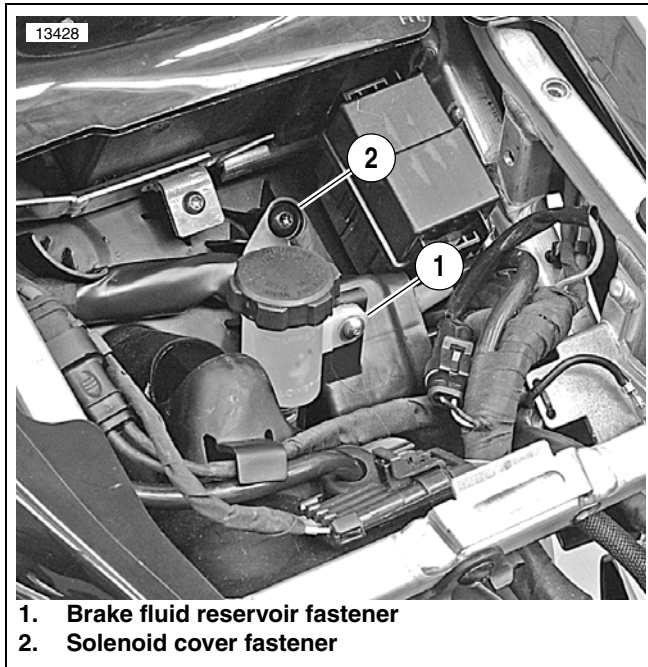
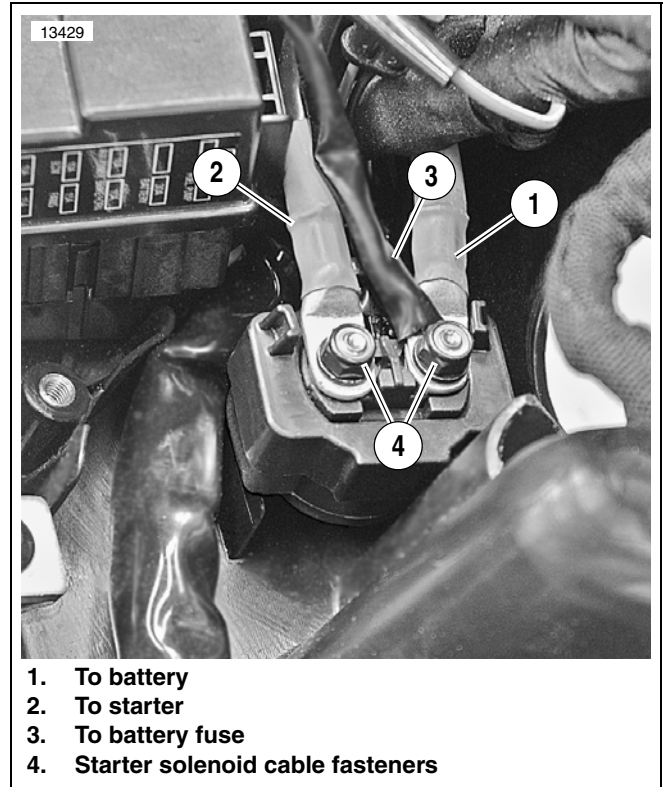

Figure 1. Starter Solenoid Cable Fasteners
Figure 2. Starter Solenoid
- See Figure 1. Remove the brake fluid reservoir fastener (1).
- Remove solenoid cover fastener (2) and the cover.
- See Figure 2. Remove starter solenoid cable fasteners (4) and washers.
- Apply blue Loctite 243 (blue) to the fasteners (4).
8. See Figure 1. Install solenoid cover and fastener (2). Tighten fastener to 37-60 **in-lbs** (4.1 to 6.8 Nm).
9. Install brake fluid reservoir and fastener (1) and tighten to 32-36 **in-lbs** (3.6-4.1 Nm)